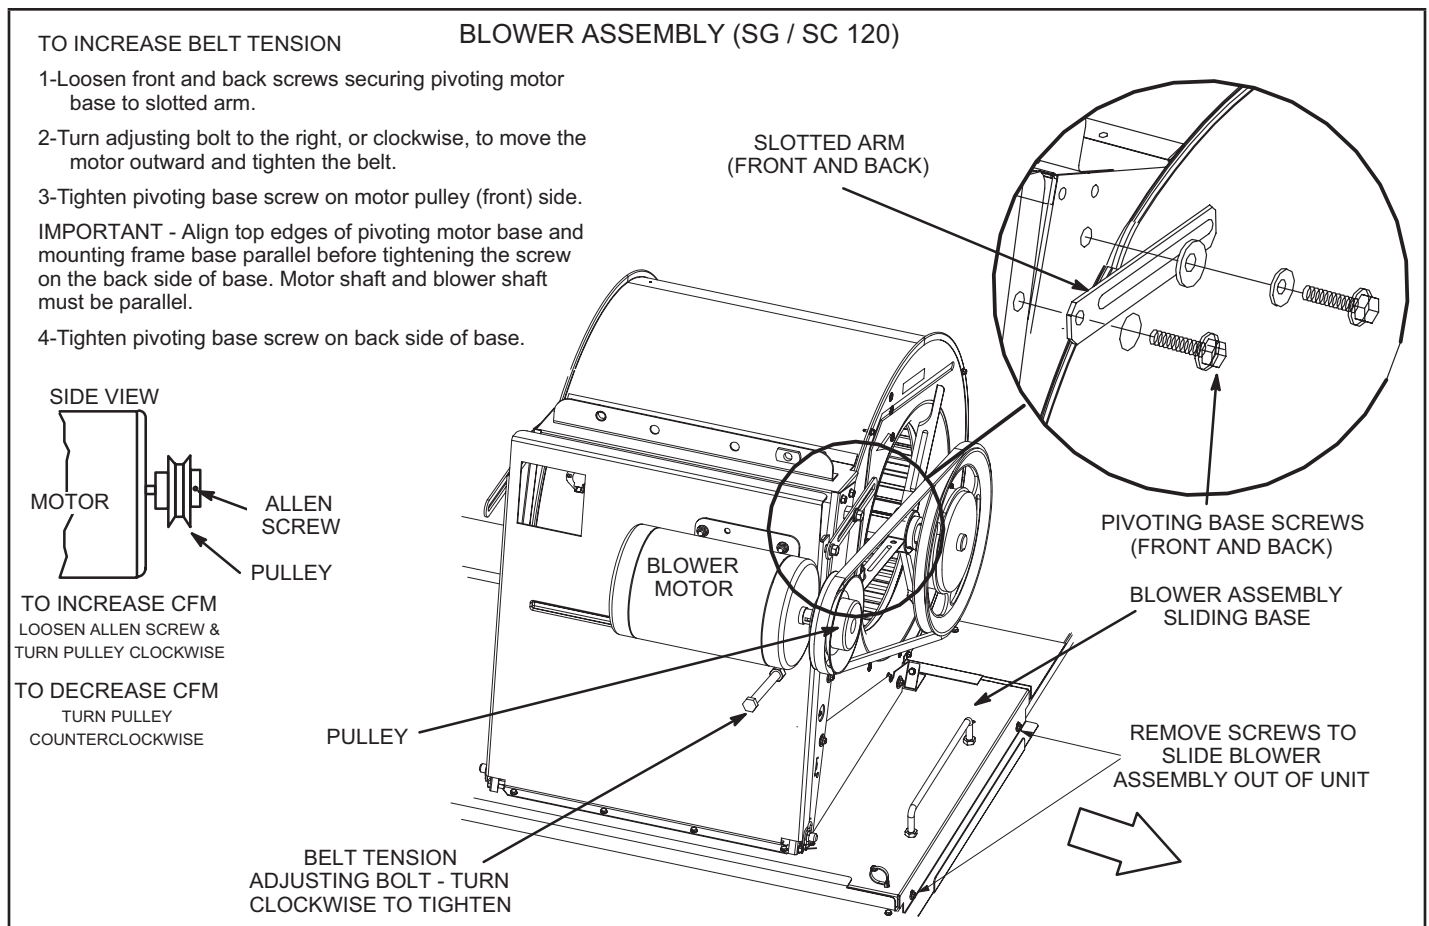
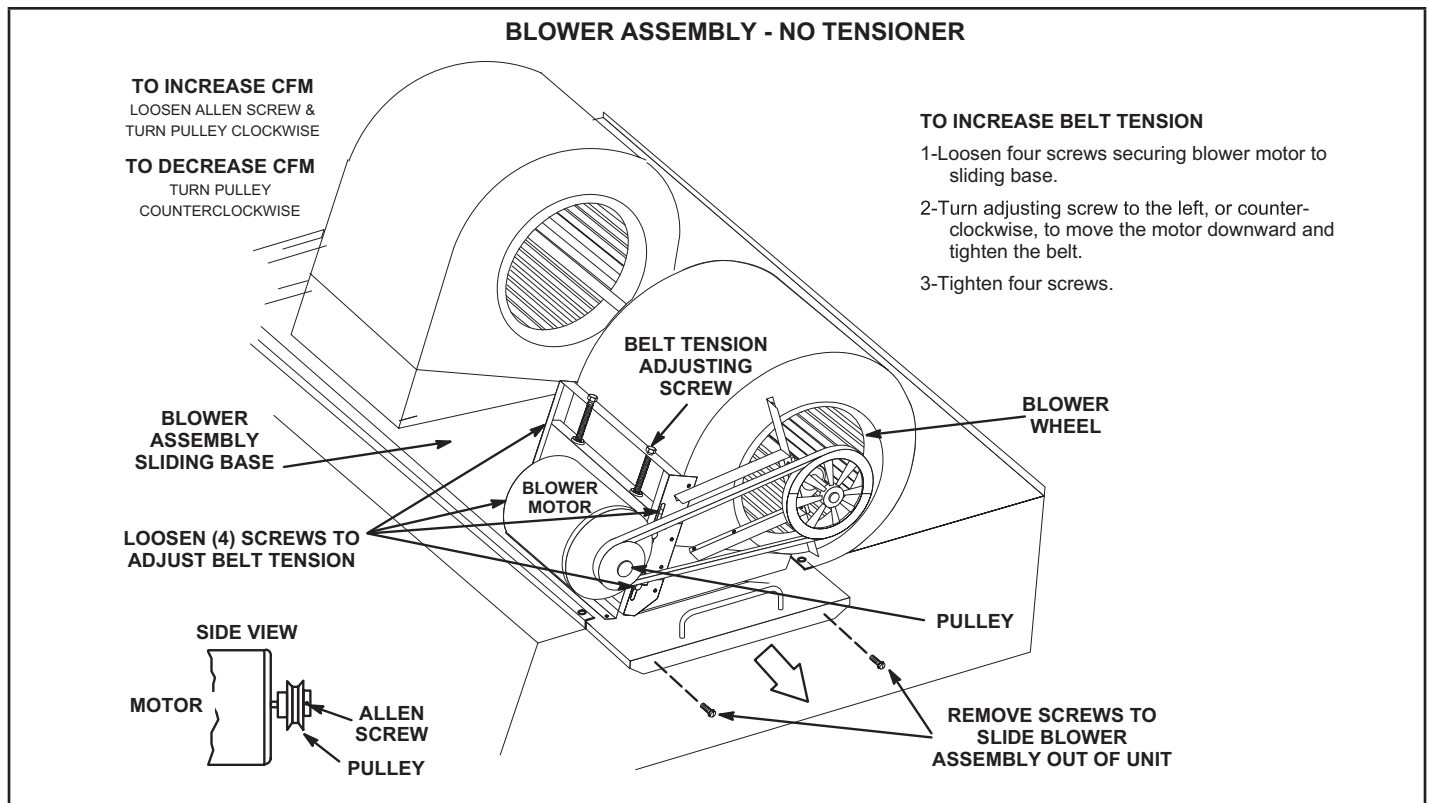
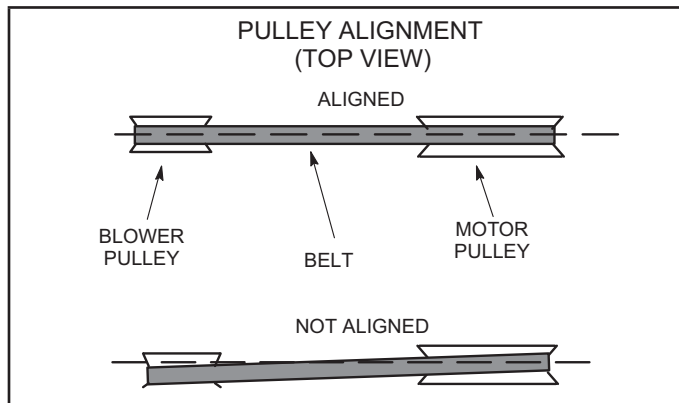

FIGURE 19
FIGURE 20
FIGURE 21
The blower compartment is located between the evaporator coil and the compressor / control section on the opposite side of the condenser coil. The blower assembly is accessed by disconnecting the blower motor wiring (and all other plugs) and removing the screws on either side of the sliding base. The base pulls out as shown in FIGURE 19 and FIGURE 20.
- 4 - The blower RPM can be adjusted at the motor pulley. Loosen Allen screw and turn adjustable pulley clockwise to increase CFM. Turn counterclockwise to decrease CFM. See FIGURE 19 and FIGURE 20. Do not exceed minimum and maximum number of pulley turns as shown in TABLE 3.
Maximum life and wear can be obtained from belts only if proper pulley alignment and belt tension are maintained. Tension new belt after a 24-48 hour period of operation. This will allow belt to stretch and seat to grooves. Make sure blower and motor pulley are aligned as shown in FIGURE 21. See FIGURE 19 or FIGURE 20 to adjust belt tension.